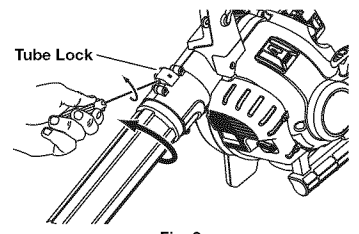

Fig. 3
2. Insert a flathead screwdriver into the Tube Lock. Twist the screwdriver counterclockwise 1/4 turn and hold (Fig. 3).
3. Grasp the blower tube and twist it counterclockwise (Fig. 3).